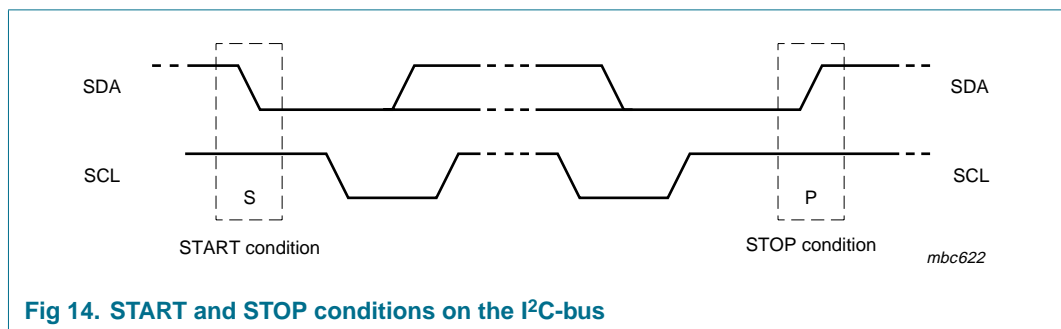

Fig 14. START and STOP conditions on the I2C-bus
Both data and clock line will remain HIGH when the bus is not busy. A HIGH-to-LOW transition of the data line, while the clock is HIGH, is defined as a start condition (S); see Figure 14. A LOW-to-HIGH transition of the data line while the clock is HIGH is defined as a stop condition (P).